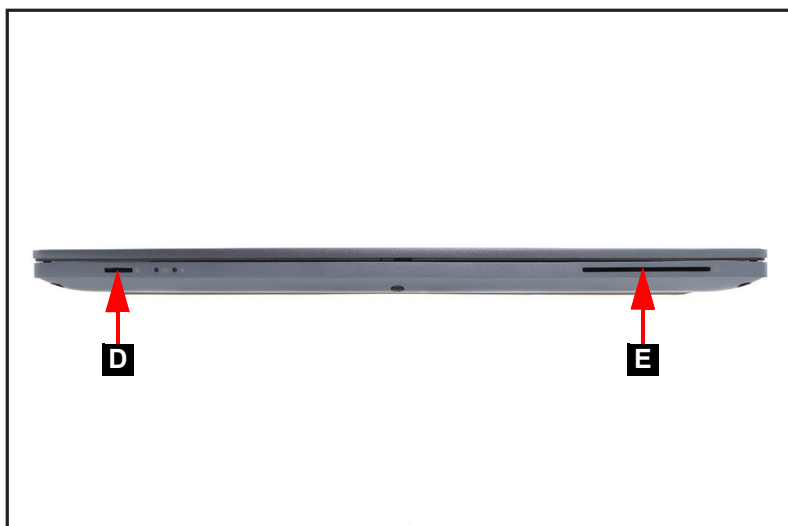

Figure 1-2. microSD Card and Smart Card Removal
4. Remove the microSD card from the microSD card slot (D). Then remove the smart card from the smart card slot (E) (Figure 1-2).